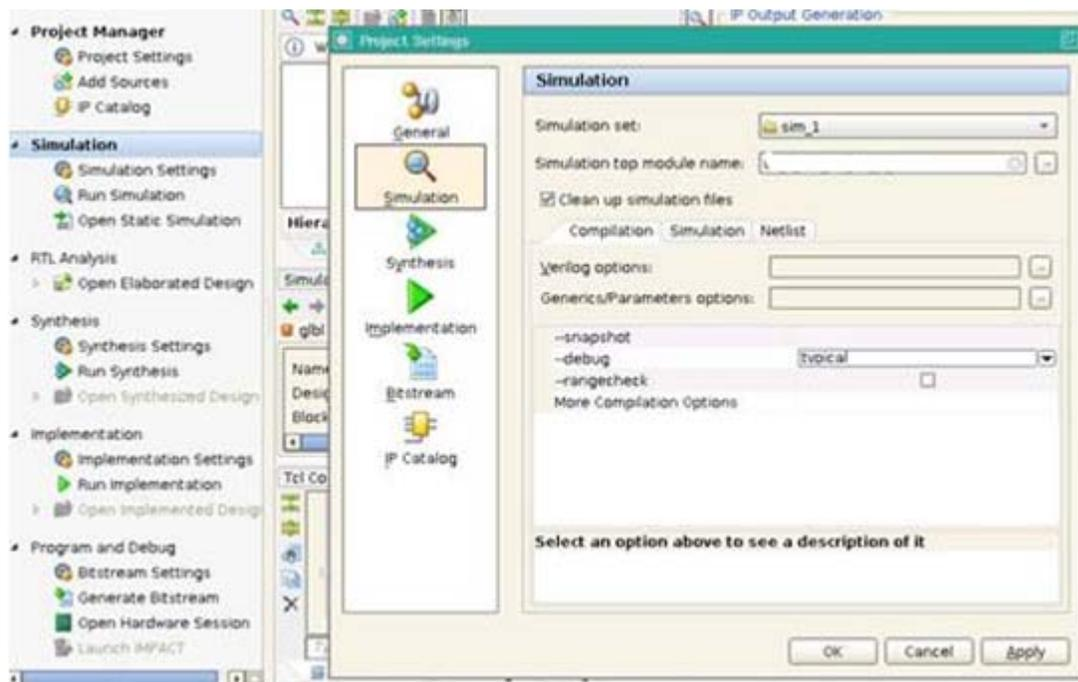

Figure 6-3: Simulation GUI
- You can also choose Modelsim for simulation by going to **Project Settings** and selecting Modelsim as the Target Simulator (Figure 6-3).